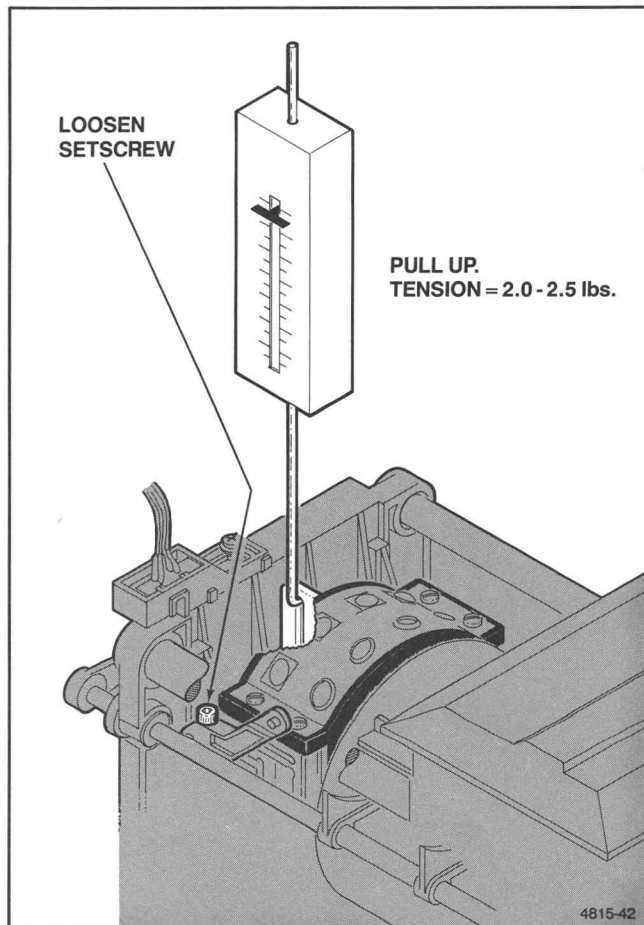

Figure 5-6. Head Maintenance Station Tension Adjustment.
To ensure that the head maintenance station properly seals the ink-jet heads during storage or maintenance operations, the maintenance station is tensioned against the ink-jet heads. This procedure details how to set the maintenance station tension and check for proper sealing — see Figure 5-6.
Manually position the head carriage over the head wash position of the head maintenance station. Ensure the head maintenance station's arm correctly mates with the cam slot of the head carriage bearing. The head carriage is correctly positioned over the head-wash position when the interruptor (left and of the head carriage bearing) is even with the left edge of the opto-sensor — see Figure 5-6.
4. Attach a spring scale through the slot in the bracket on the left side of the maintenance station — see Figure 5-6.